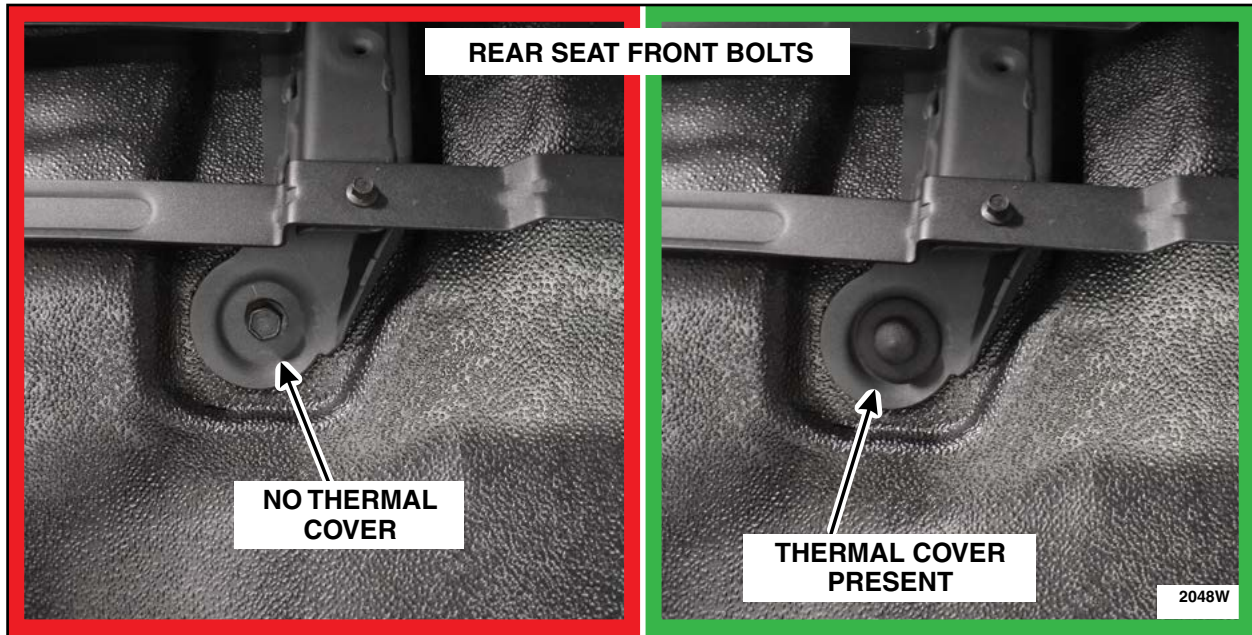

FIGURE 8
d. Covers on the rear seat, front bolts (3). See Figure 8.